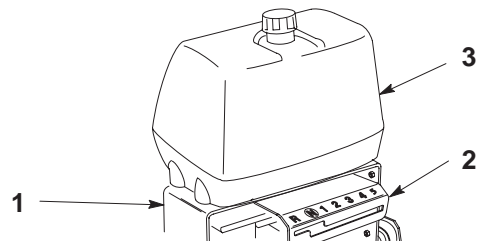

Figure 10
2. Slide the shift lever plate over the shift lever and under the bottom of the rear frame (Fig. 10).
3. Align fuel tank with the top of the rear frame (Fig. 10).